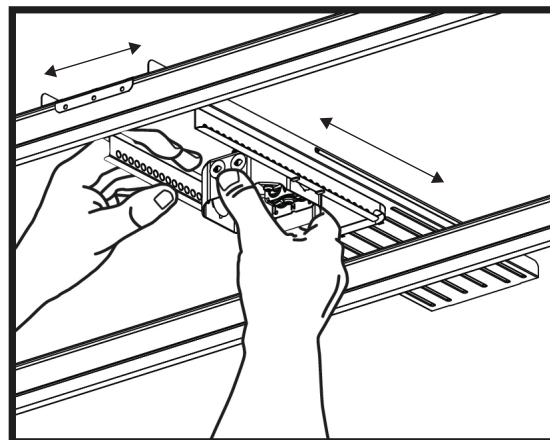

Figure 1
2. Insert a box between the two support flanges, as shown in Figure 1.
3. Adjust the position of the support and the box as indicated by the arrows on Figure 1.